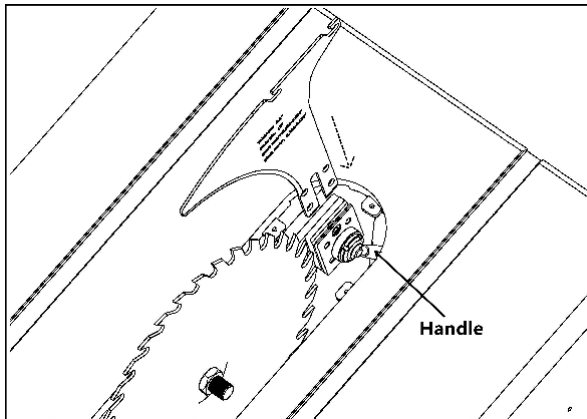

Fig. 16
2. Unlock the handle. **Fig. 16**
3. Slide the blade guard spreader all the way down into the block, then lock the handle. **Fig. 16**